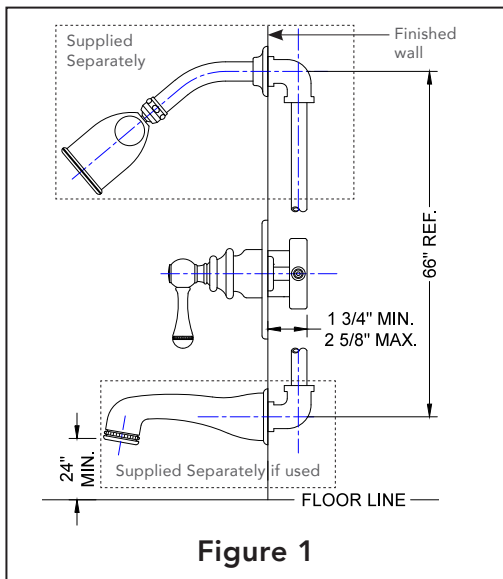

Figure 1
2. Install valve in rough wall blocking within min. max. dimensions to finished wall. **Figure 1**